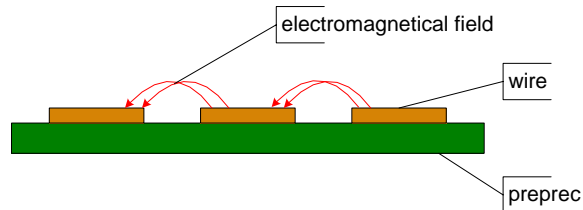

Fig.: 9 Crosstalk – worst case
**Crosstalk:** We talk about Crosstalk when the spacing between the traces is too narrow and the electromagnetic fields of the signals traveling along the adjacent traces interfere. Crosstalk is shown in Fig. 9.